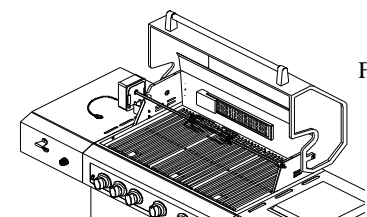

Fig.6
6. Completed Assembly (See Fig. 6)